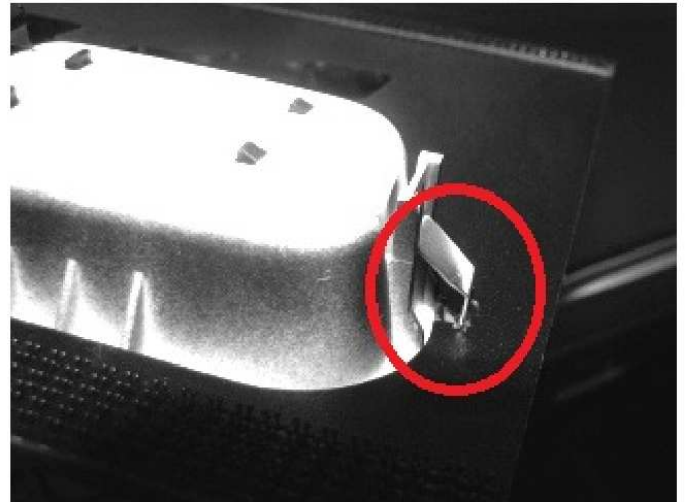

Fig 6 - Low Range Spring Clips
8. Using needle nose pliers, carefully pry out the spring clips on the storage bin/low range switch to secure it into the Shifter Gate Plate (Fig 6).